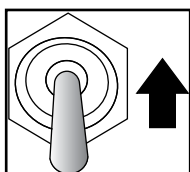

Figure 10. DEF Level Check Switch
1. Push upwards on the “Level Check” momentary toggle switch (Figure 10).